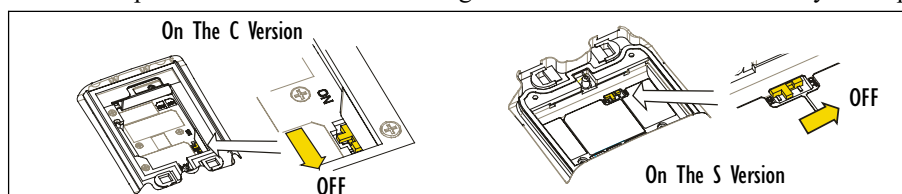

Figure 1 Switching Internal Battery-Backup Power Off
- Slide the hardware power switch as indicated in Figure 1 to switch off internal battery-backup power.